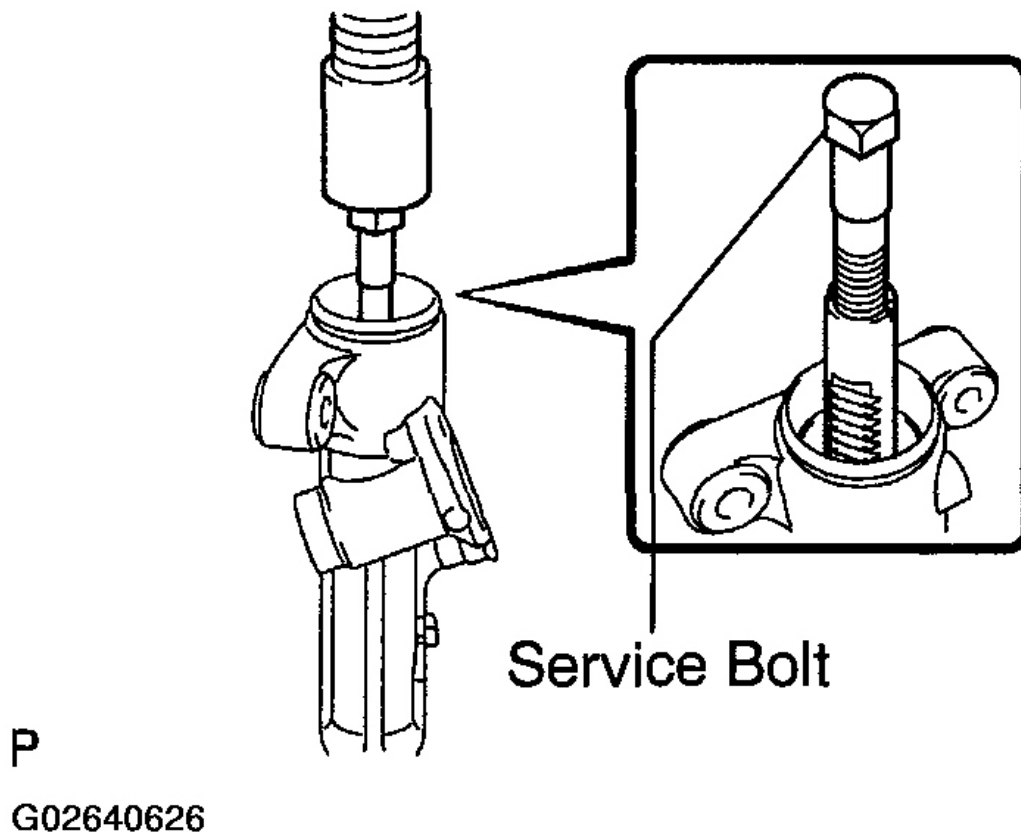

Fig. 91: Removing Steering Rack From Steering Rack Housing
- a. Using a service bolt and press, remove the steering rack from the steering rack housing. See **Fig. 91**.